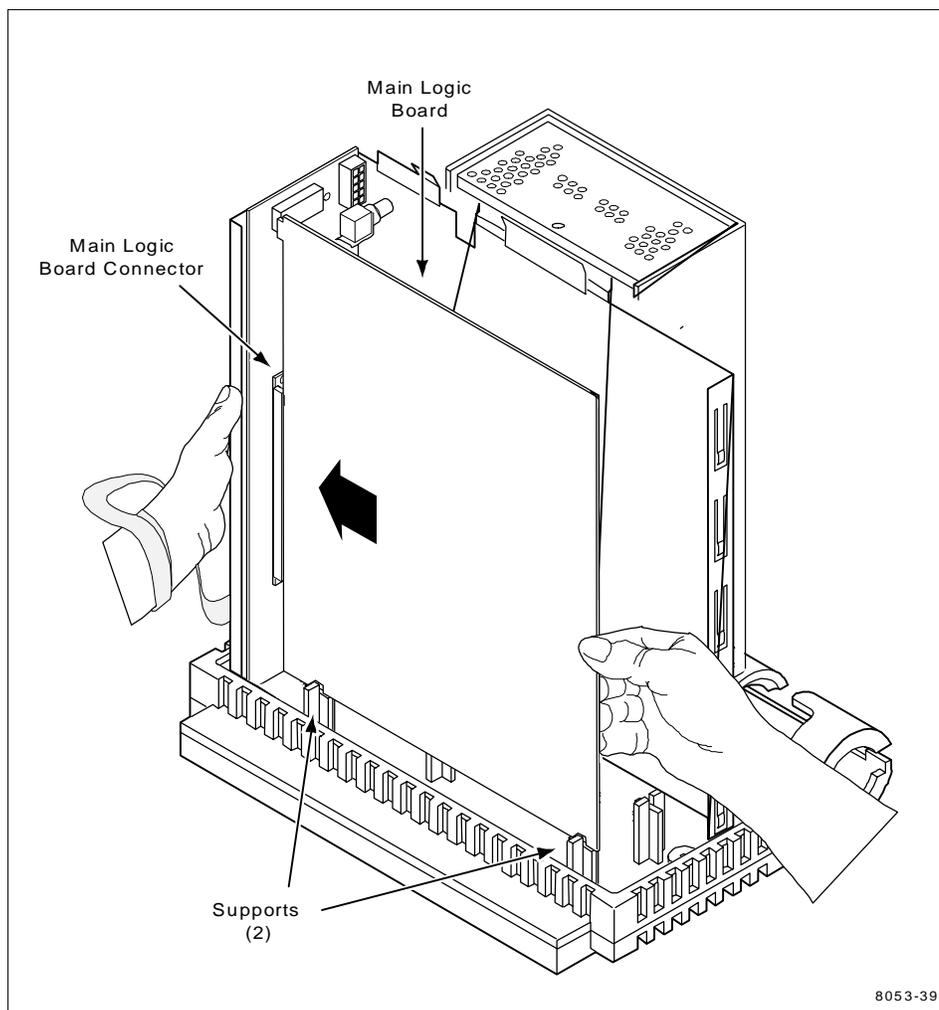

Figure 5. Installing the Main Logic Board in the Tower Cabinet
6. Re-install the Main Logic board as shown in Figure 5. Rest the bottom edge of the Main Logic board on the supports and slide it in the direction of the arrow. Make sure the connector is correctly aligned, then push firmly to seat the board completely in the connector.